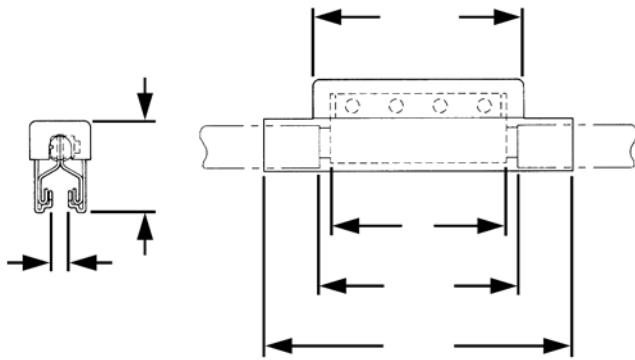

Figure 4
2.2.2.1 Butt conductor bar together and place bolted splice halves at center of joint and fasten with hardware supplied (see Figure 4).